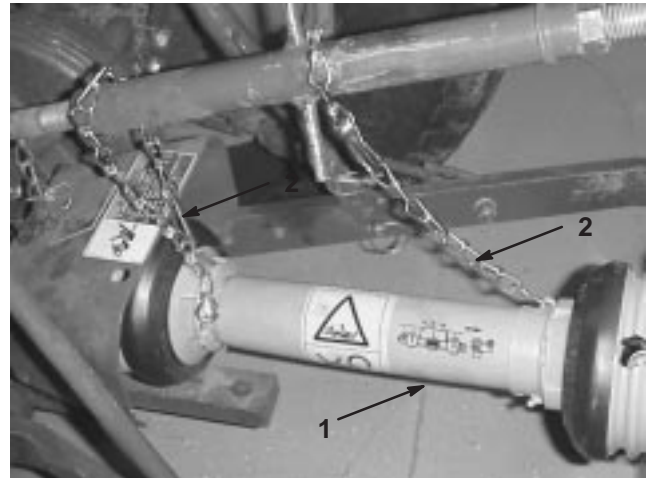

Figure 7
- Connect the shield safety chains from the powershaft sections to the welded clips on the link arms or to the PTO shields (Fig. 7). Make sure that the chains remain slack when the blower is raised or lowered.